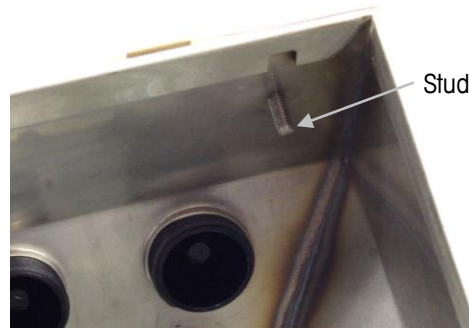

Figure A-8: Stud for Attaching Reversed Front Panel
3. Carefully rotate the front cover 180 degrees and reattach the two grounding straps to the two studs near the grip bushings using the two nuts removed in the previous step. Figure A-8 shows one of the studs. Tighten the two nuts.